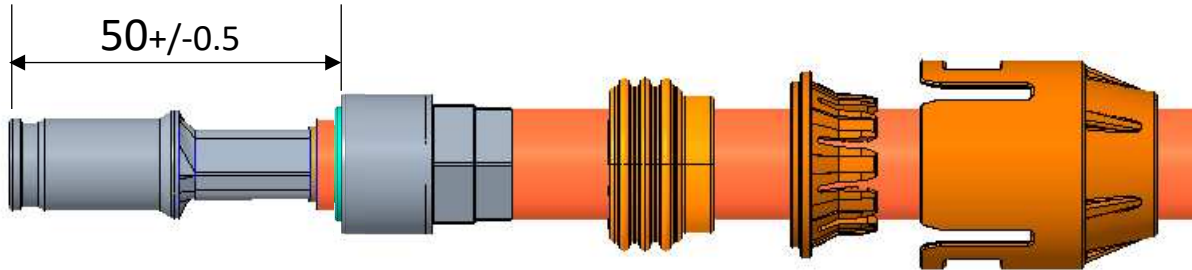
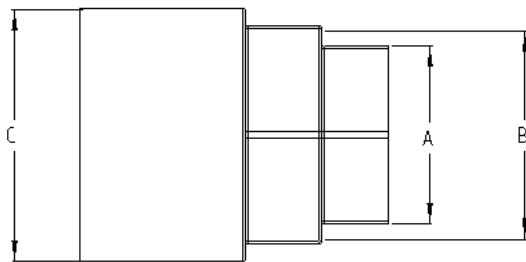
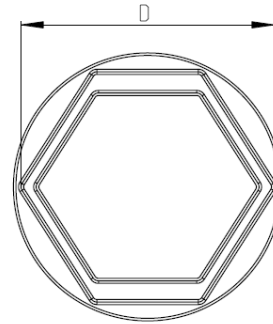

Figure 14: Shield crimp
Figure 15: Crimp height
Figure 16: Crimp width
- Hex crimp dimensions per figure 14, figure 15, figure 16 and table 9
- 每个压接尺寸依据图14,图15,图16和表9的六角形